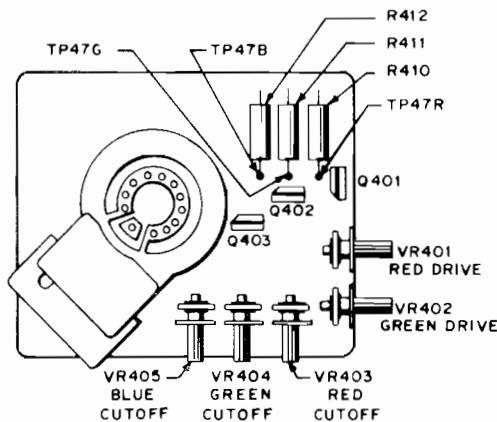
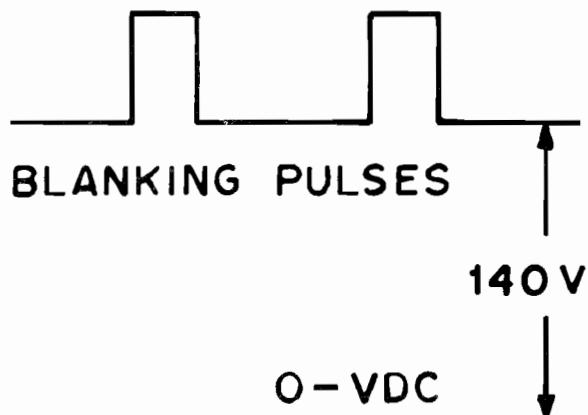

FIGURE 2
FIGURE 3
- 6 Connect the oscilloscope, multimeter, or VOM, to the collector of a video output transistor (Q401, Q402, or Q403) on the CRT neck PCB at TP47R, TP47G, or TP47B as shown in Fig. 2.
- 7 Adjust the black level control (VR201) to obtain the waveform shown in Fig. 3 or a  $\pm 150$  volt DC reading on the multimeter or the VOM.
- 13 With the oscilloscope, multimeter, or VOM connected to the collector of the lead color video output transistor (See Fig. 2), adjust the black level control to obtain the waveform in Fig. 3 or a  $\pm 150$  volt DC reading on the multimeter or VOM.